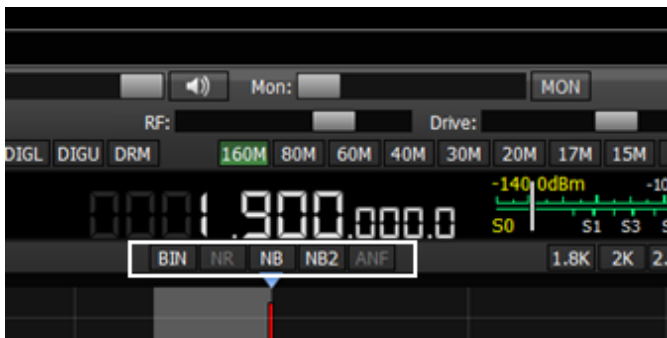

Figure 8.8 – DSP – processing buttons
- In the place showed below, in Figure 8.8, there are special DSP buttons. They are noise reduction «NR», short time impulse noise blanker «NB» and «NB2» and carrier signal automatic notch filter «ANF». As a separate DSP function pseudo stereo reception “BIN” can be singled out.